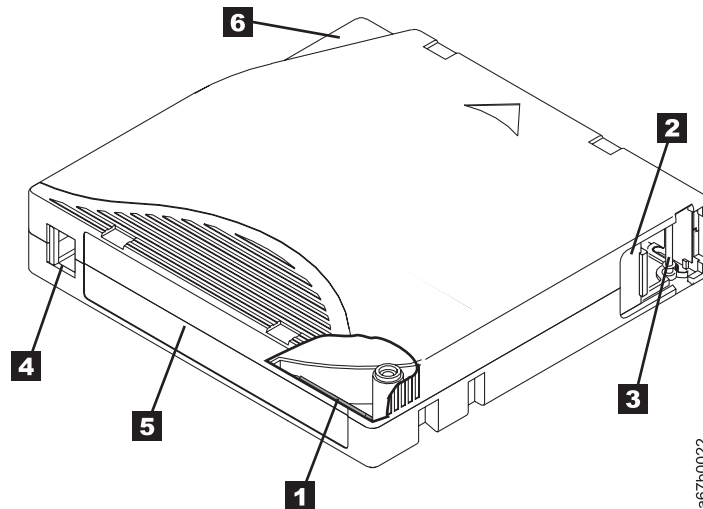

Figure 12. The IBM TotalStorage LTO Ultrium 200 GB Data Cartridge
Figure 12 on page 34 shows the TotalStorage™ LTO Ultrium 200 GB Data Cartridge and its components.
Both generations of the IBM LTO Ultrium Data Cartridge includes a Linear Tape-Open Cartridge Memory (LTO-CM) chip (**1** in Figure 12), which contains information about the cartridge and the tape (such as the name of the
The cartridge door (**2** in Figure 12 on page 34) protects the tape from contamination when the cartridge is out of the drive. Behind the door, the tape is attached to a leader pin **3**. When you insert the cartridge into the drive, a threading mechanism pulls the pin (and tape) out of the cartridge, across the drive head, and onto a non-removable takeup reel. The head can then read or write data from or to the tape.
When attaching a bar code label to a tape cartridge, place the label only in the recessed label area (see **5** in Figure 12 on page 34). A label that extends outside of the recessed area can cause loading problems in the drive or the library.
- Position the label within the recessed label area (see **5** in Figure 12 on page 34).